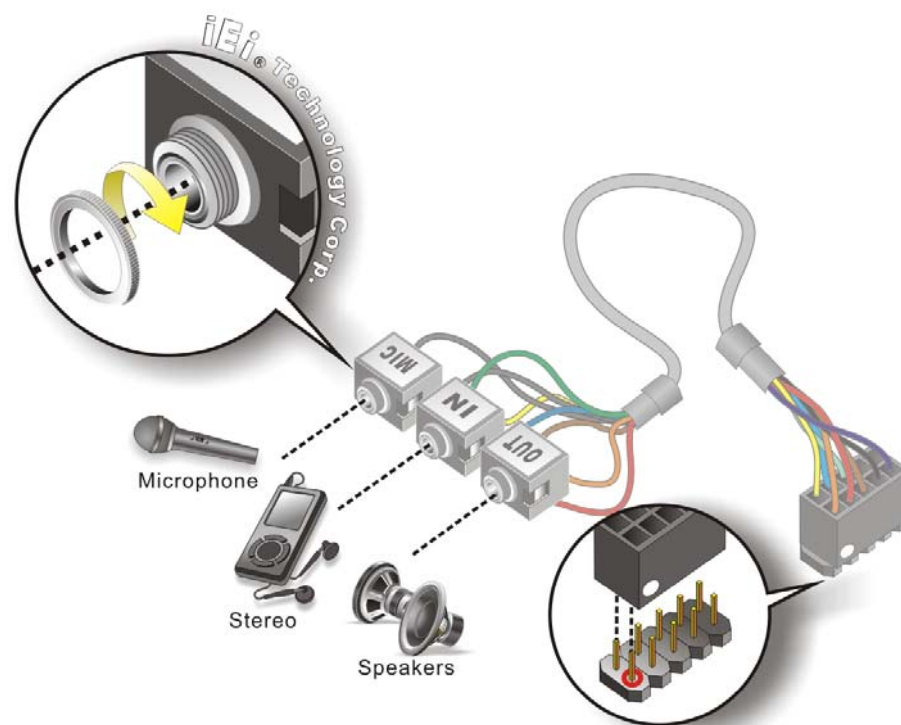

Figure 4-7: Audio Kit Cable Connection
Step 2: Align pin 1. Align pin 1 on the on-board connector with pin 1 on the audio kit connector. Pin 1 on the audio kit connector is indicated with a white dot. See **Figure 4-7**.